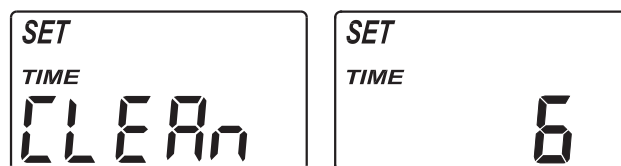

FIG. 29
1. Press and hold the SELECT button until the screen in Figure 29 is displayed.
2. Press the SELECT button three times to display the "Set Clean Time" screen (See Figure 29).